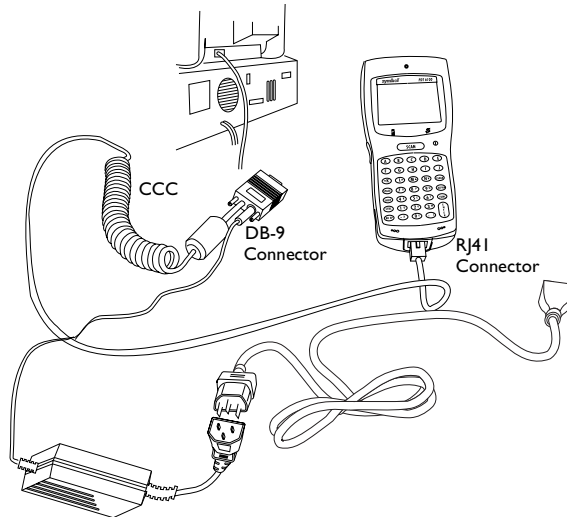

Figure 5-9. Using the CCC to Connect the PDT 6100 to a Host PC (shown) or Printer
To communicate with a host through the CCC (refer to Figure 5-9):
1. Plug the CCC's 10-pin RJ-41 connector into the PDT 6100 terminal's serial port (refer to Figure 5-9).